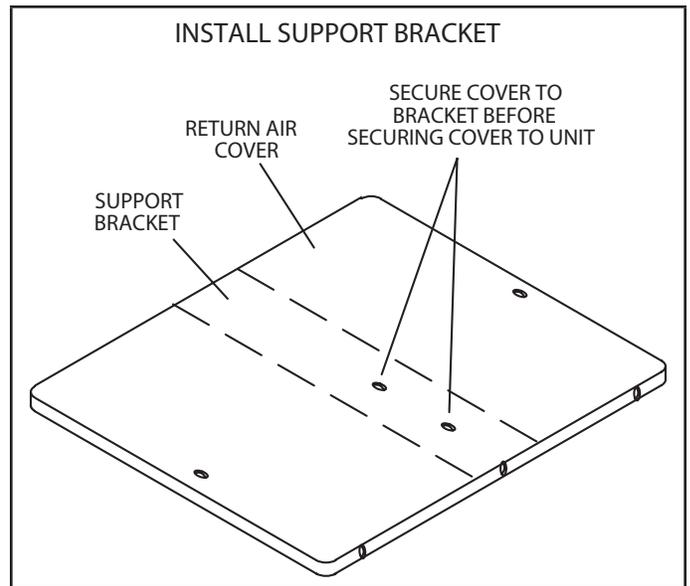

FIGURE 8
- 8 - Secure return air panel to the support bracket using screws provided. See FIGURE 8.